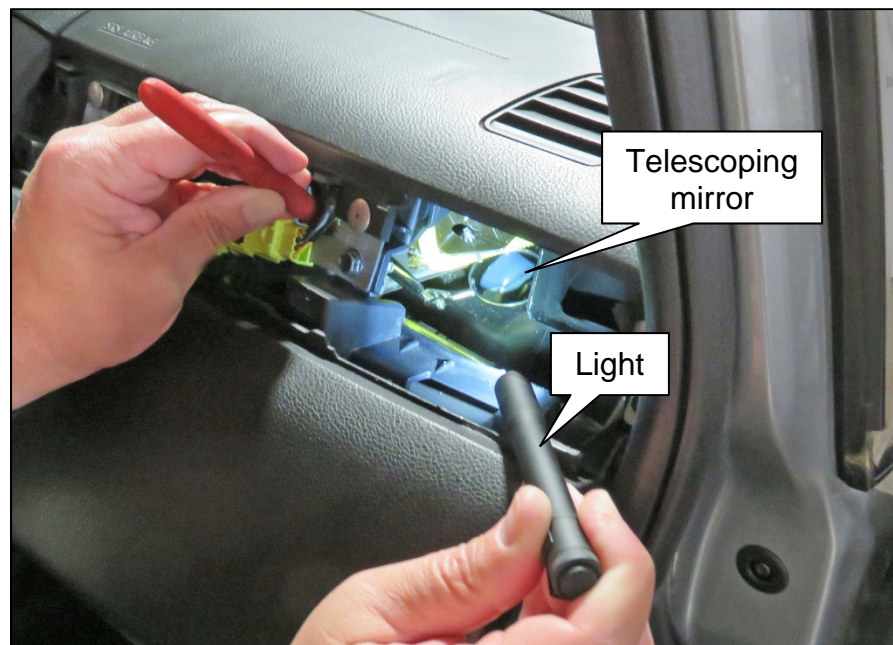

Figure 19
19. Using a telescoping mirror and a light, inspect the area shown in Figure 19 to determine if the Air Bag inflator is metal or has a plastic end cap.